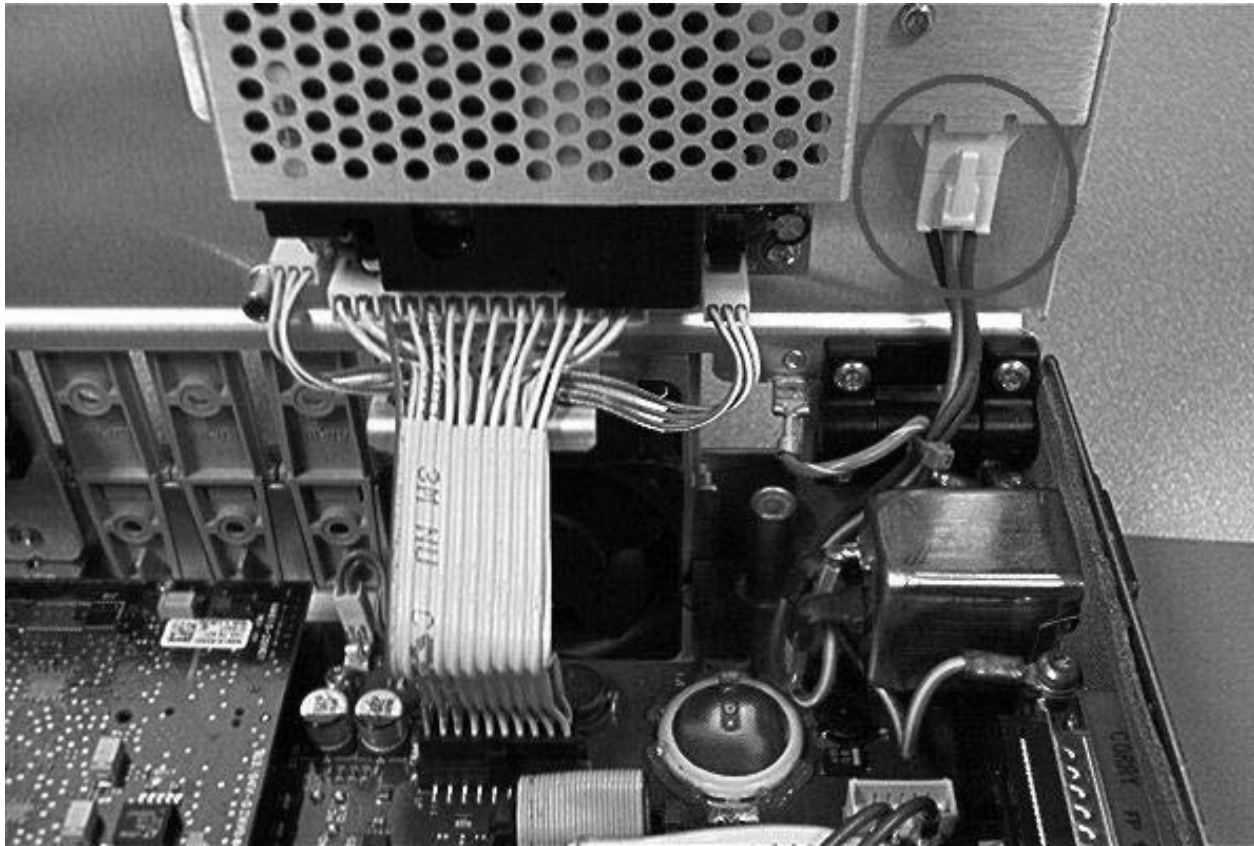

Figure 1: Line Module Connector (Attached To The Deck Assembly)
6. Disconnect the white line module connector from the deck assembly (refer to Figure 1).